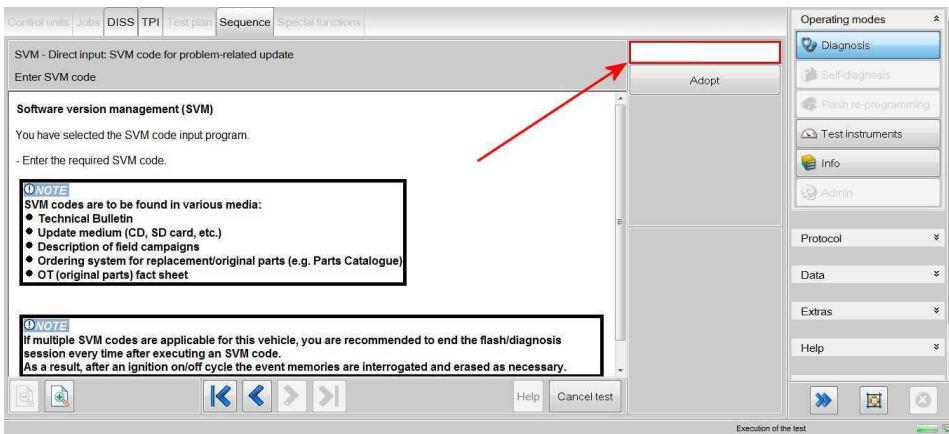

Figure 2
2. On the next screen enter the SVM code 371D6HHZDC and select Adopt (Figure 2).
7. On the next screen enter the SVM code **371D7HKZDC** and select *Adopt* (Refer back to Figure 2)